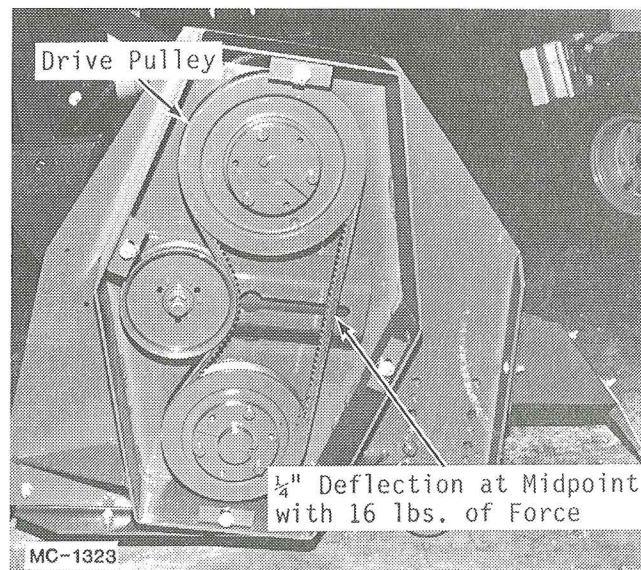

Figure 13
2. 1/4" deflection at the midpoint with 16 lbs. of force on the straight side of the belt is desirable. (See Figure 13.)